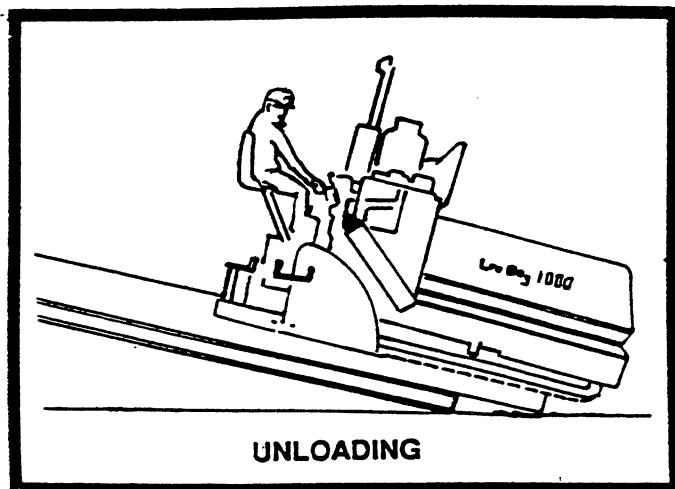

FIGURE 14
5. Move the paver forward down the ramp as shown in figure 14.